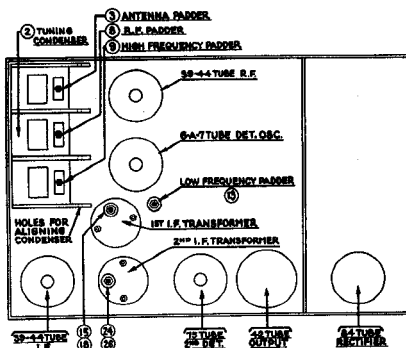

Fig. 2
Remove the speaker lid from the Receiver and disconnect the antenna lead from the Receiver. Remove the grid cap from the 6A7 tube (for location see Fig. 2).
Set up the signal generator and adjust it to exactly 260 K. C. Connect the generator lead to the grid cap of the 6A7 tube. (See Fig. 2.) The output meter must be connected by means of an adapter to the small prong of the speaker plug and to the chassis.
The padders ② and ③ are adjusted first (Figs. 2 and
3.) Turn the adjusting screw ② all the way in. A metal screw driver can be used for this. Then, with generator attenuator set so there is approximately half-scale reading, adjust the nut ③ with a fibre wrench for the maximum reading on the output meter.
There are four holes in line, one in each of the sections of the tuning condenser housing. (See Fig. 2.) Place a nail of the size that fits snugly through the holes and then turn the condenser plates out of mesh until they strike against the nail.